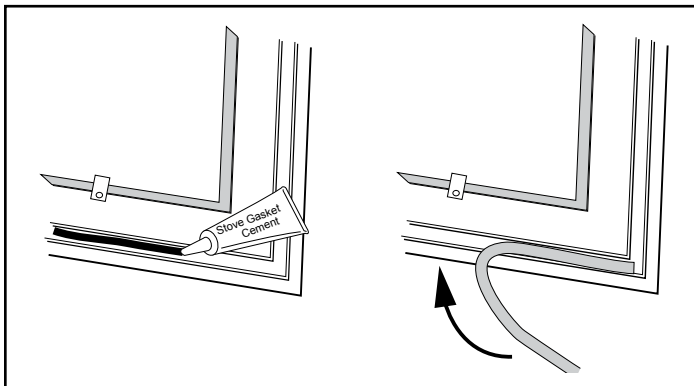

Figure 3.6 - Lay a bead of gasket silicone or cement then press gasket in place.
5. Lay an unbroken 1/8" (3 mm) bead of silicone or cement in the newly-cleaned channel, Figure 3.6.
6. Starting at one end, press the gasket into the channel, Figure 3.6. Ensure a good joint where the gasket meets before trimming any excess. Do not overlap the gasket ends or leave ends with ragged edges.